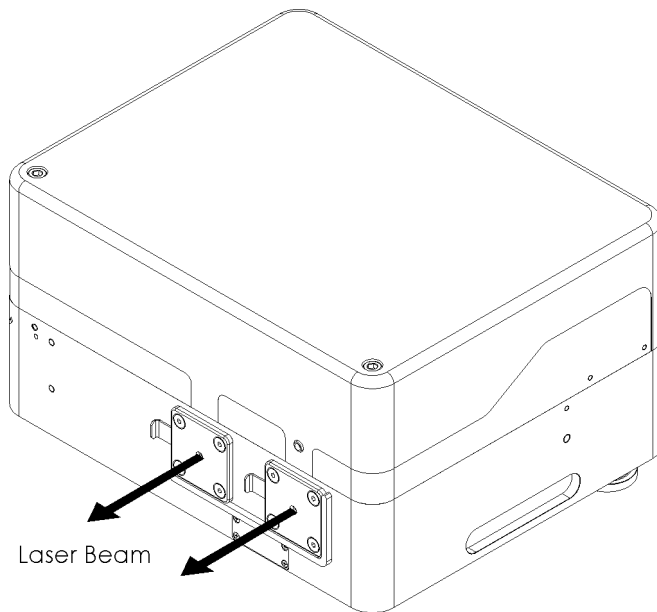

Figure 26 FemtoFiber® pro Laser Head
- The laser beam emits through up to one of the 2 apertures shown in Figure 26 depending on the system variant. For location of the laser beam apertures please see Paragraph 6.10.